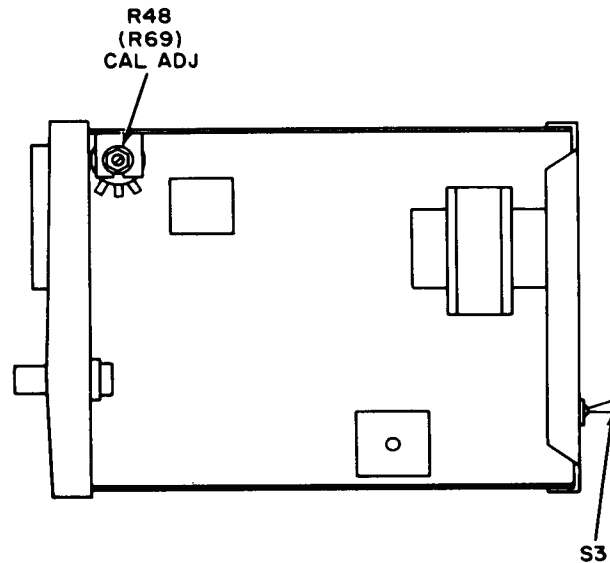

Figure 1. Dc milliammeter - right-side view.
- (5) Set **POWER** switch to **ON**.
- (6) Insert probe head into degausser at rear of TI (front of TI if rack-mounted) with arrow on probe pointing in same direction as arrow on chassis.
- (7) Press pushbutton S3 (fig. 1) to energize degausser.
- (1) Set **RANGE** switch to **100 MA**.
- (2) Set calibrator for a 100 mA dc output.
(3) Adjust R48 CAL ADJ (R69 CAL ADJ) (fig. 1) until meter indicates 100 mA dc (R).